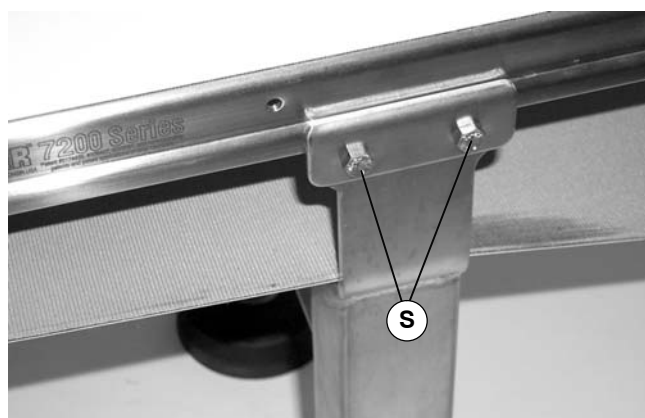

Figure 23
7. Loosen two clamp plate screws (S of Figure 23) on side of conveyor opposite drive motor.
3. Tighten two clamp plate screws (S of Figure 23)